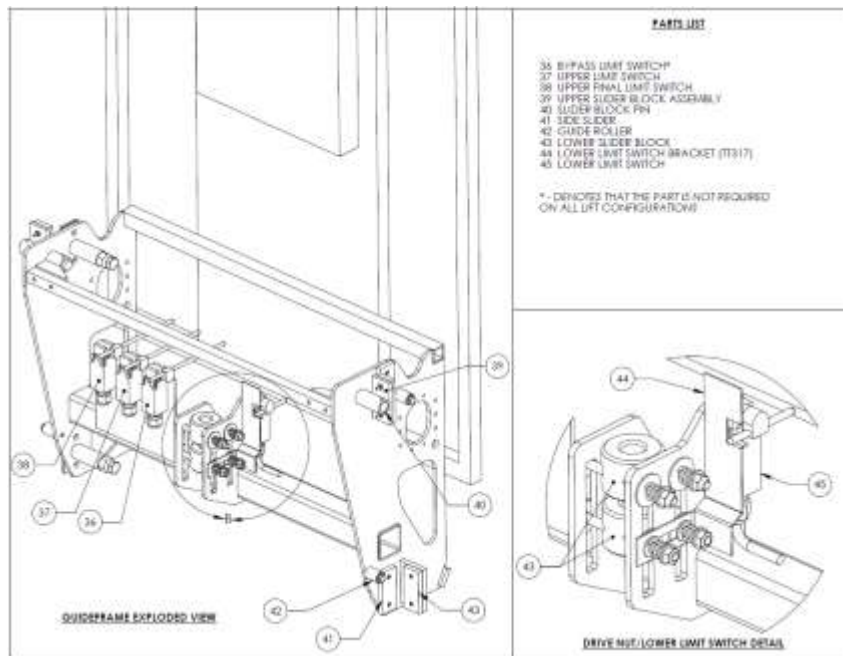
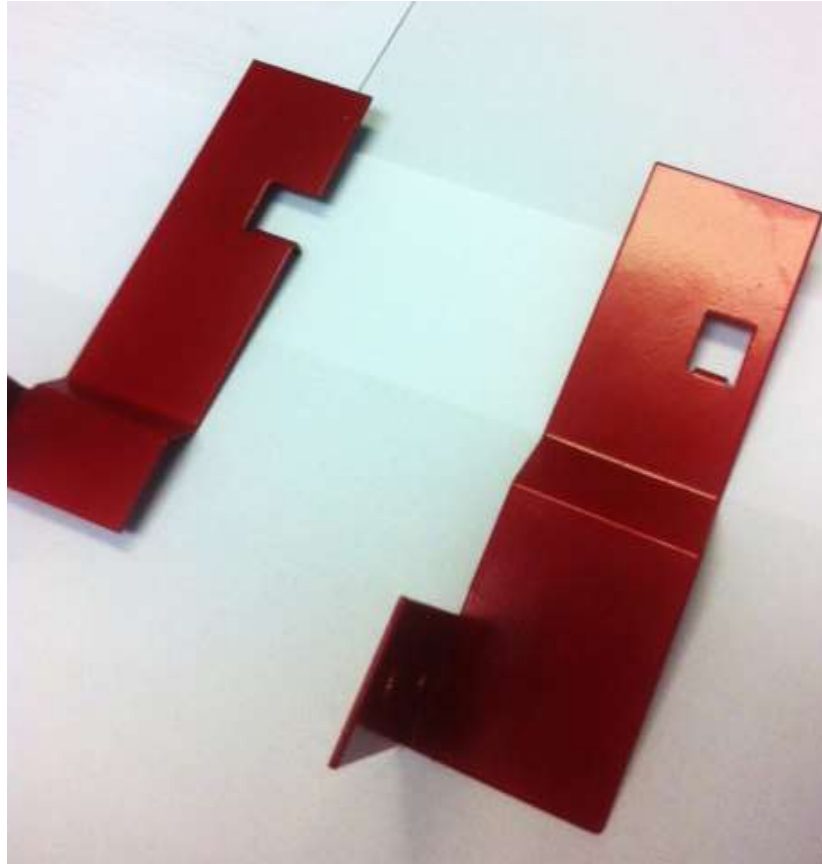

Figure 1: Trus-T-Lift™ Guide Frame Assembly
Figure 2: Old Revision Bracket on Left, Revised Bracket on Right
The following image, figure 1, shows the old revision of bracket (item 44). If the lower limit switch rod is not captured in the slot as shown in the lower limit switch detail please replace it in the slot immediately and then proceed to procure and replace with a revised bracket. An image of the revised bracket is shown in figure 2 below.